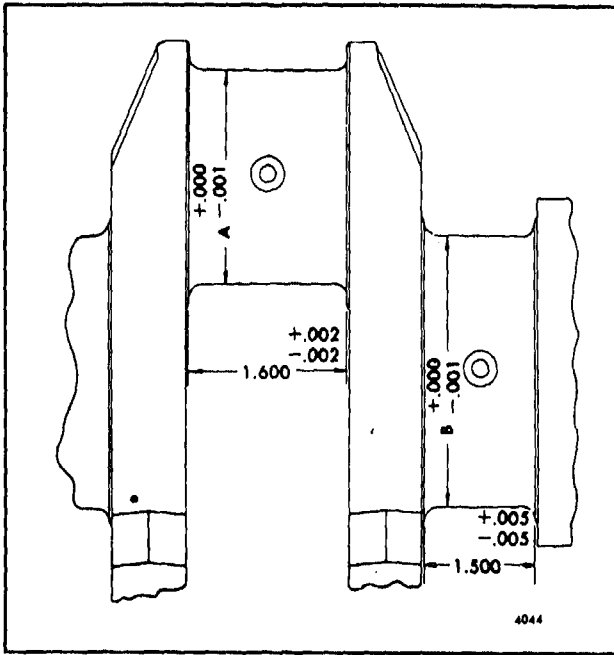

Fig. 7 - Dimensions of Crankshaft Journals -
Measure all of the main and connecting rod bearing journals (Fig. 7). Measure the journals at several places on the circumference so that taper, out-of-round and bearing clearances can be determined. If the crankshaft is worn so that the maximum connecting rod journal-to-bearing shell clearance (with new shells) exceeds .0045" (In-line engine)
1. Compare the crankshaft journal measurements taken during inspection with the dimensions in Table 1 and Fig. 7 and determine the size to which the journals are to be reground.